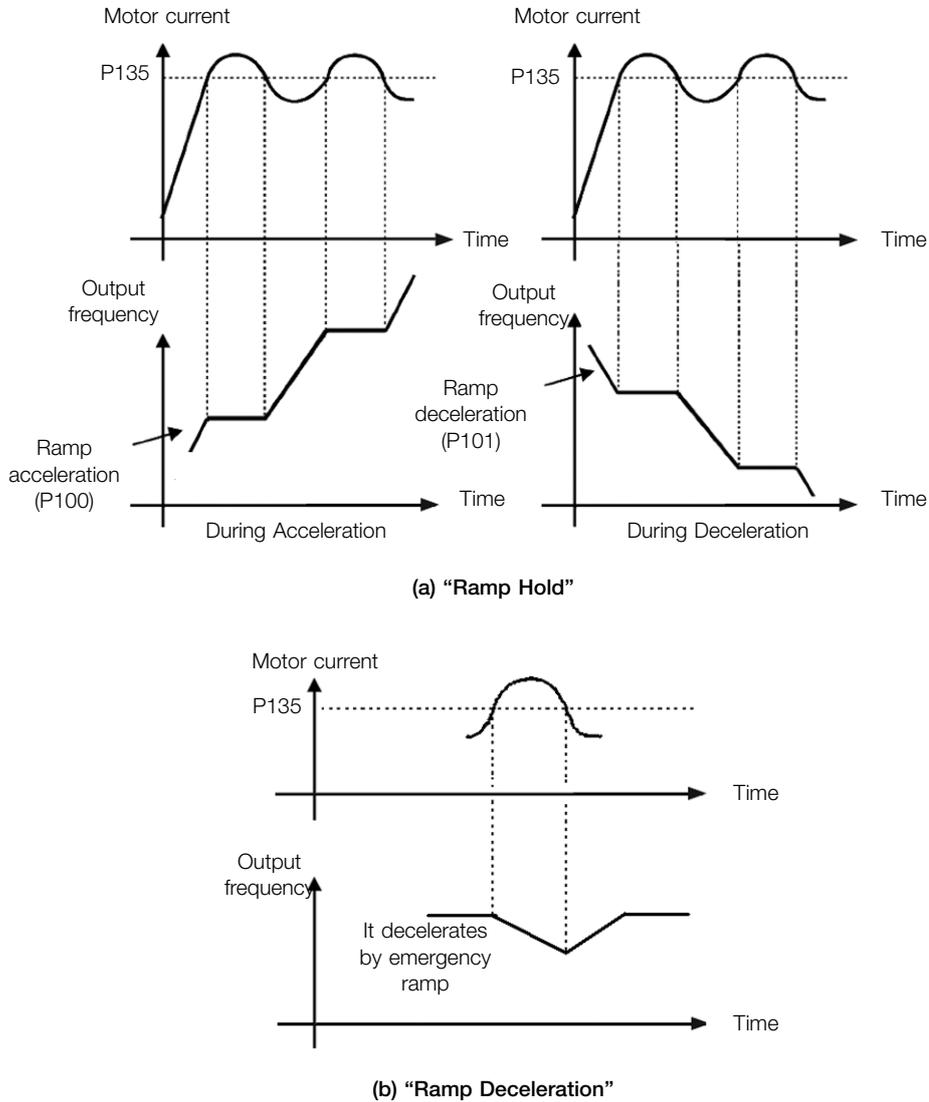

Figure 8.6: (a) and (b) Actuation modes of current limitation via P135
- Actuation: if the motor current exceeds the value set in P135 during acceleration or deceleration, the frequency will not be incremented (acceleration) or decremented (deceleration). When the motor current reaches a value below P135 the motor accelerates or decelerates again. Refer to Figure 8.6 on page 8-8.
- Actuation: if the motor current exceeds the value set in P135, a null value is forced for the frequency ramp input forcing the motor deceleration. When the motor current reaches a value below P135 the motor accelerates again. Refer to Figure 8.6 on page 8-8.
Current level to activate the current limitation for the Ramp Hold and Decelerate Ramp modes, as per Figure 8.6 on page 8-8 (a) and (b), respectively. In order to disable the current limitation, you must set parameter P135 > 1.9 x I_{nom}.